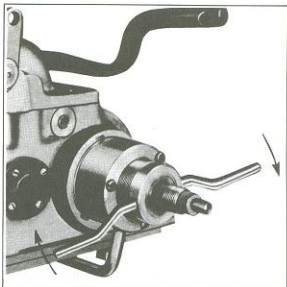

Figure 4-10. Pulling Oil Seal
Turn actuating screw (A) into body and continue turning as shown in Figure 4-10 until oil seal is free. Discard oil seal and oil seal cork washer found behind seal.